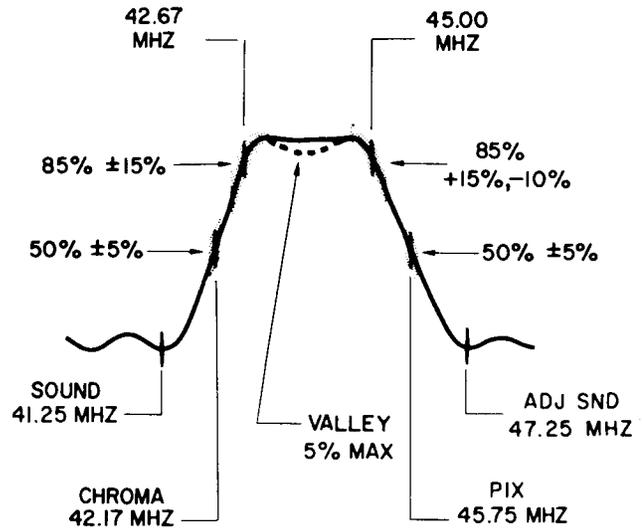

Figure 20. Typical I-F Response Curve Showing Tolerance Ranges of Response Levels
7. Select the marker generator frequencies required to check the critical frequencies of interest (see Figure 20). A sweep and marker generator capable of displaying all the markers simultaneously, such as the B & K Model 415, is a big advantage.